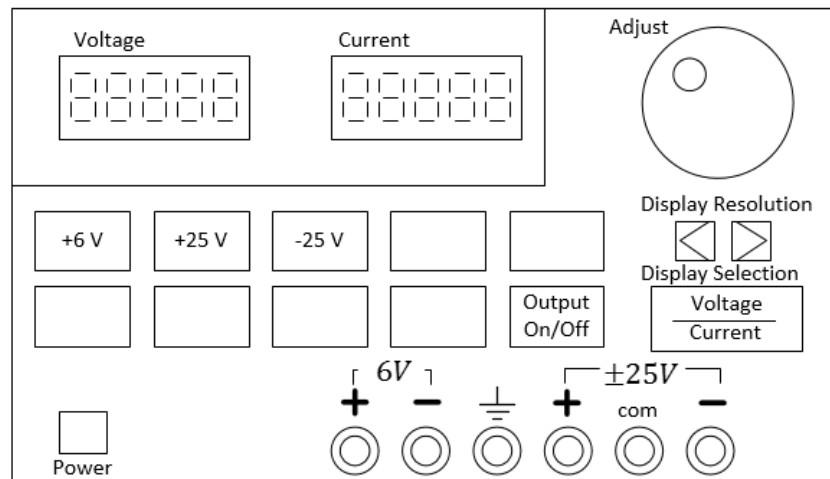

Figure 5: Configuration of the power supply when providing a voltage to a circuit.
- ✓ **Push the button labeled +6V** to allow the device to deliver at most 6 volts but at potentially large currents. You will use the pair of black and red terminals labeled +6V. See Figure 5.